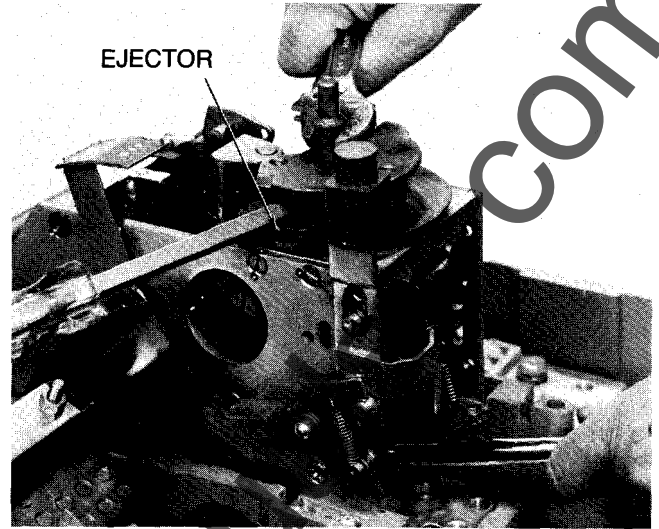

Figure 7.
5. Remove the cam by holding the nut behind the latch frame with a  $\frac{9}{16}$ " hex socket wrench (Figure 7) and using an adjustable wrench, rotate the cam shaft counter clockwise. Lift out the cam.